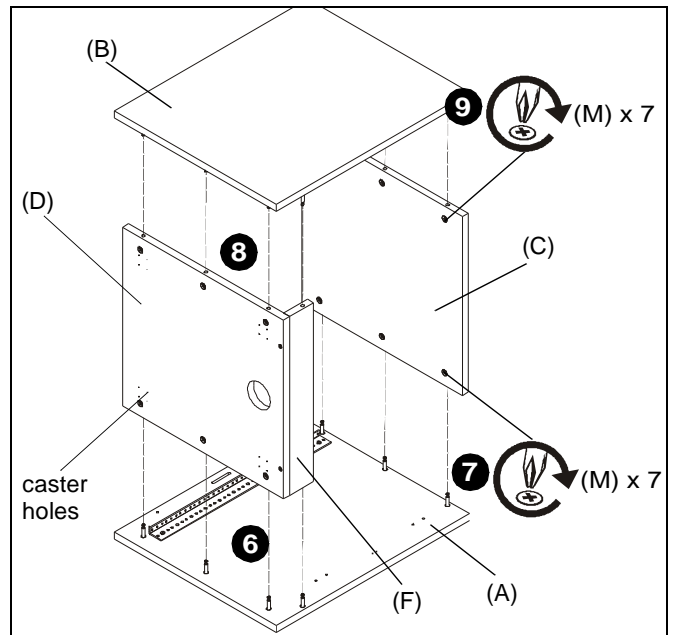

Figure 4
5. Place one side panel (A or B) on flat surface with connecting bolts (V) facing up. (See Figure 4)
6. Drop rack top (C), rack bottom (D) and back support (F) onto side panel with cams (M) engaging with connecting bolts (V). (See Figure 4)
7. Turn all cams clockwise to secure side panel. (See Figure 4)
8. Drop other side panel (A or B) onto rack top (C), rack bottom (D) and back support (F) with cams (M) engaging with connecting bolts (V). (See Figure 4)
9. Turn all cams clockwise to secure side panel. (See Figure 4)